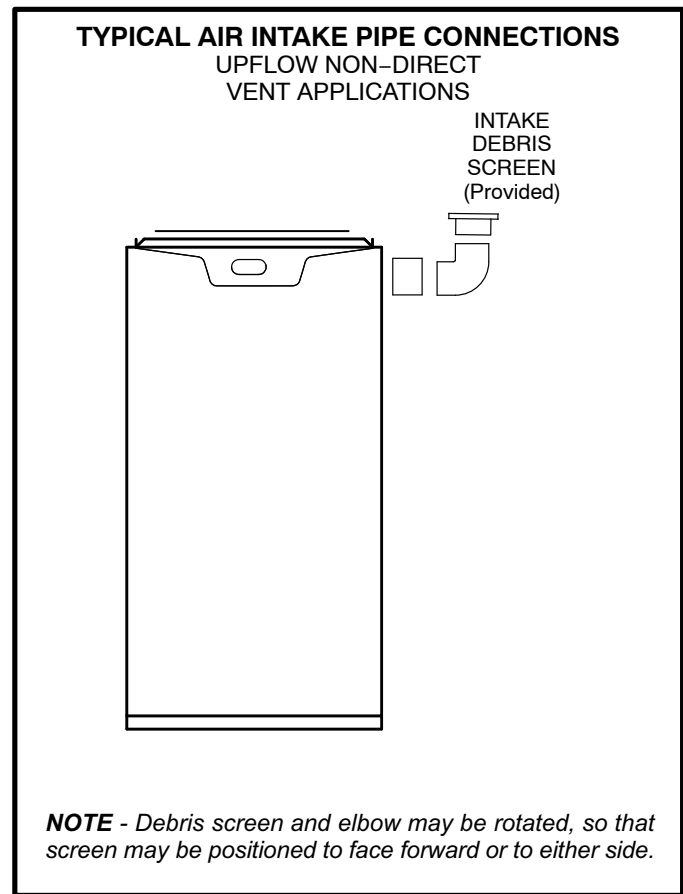

FIGURE 25
- 1 - Use field-provided materials and the factory-provided air intake screen to route the intake piping as shown in figure 25 or 26. Maintain a minimum clearance of 3" (76mm) around the air intake opening. The air intake opening (with the protective screen) should always be directed forward or to either side in the upflow position, and either straight out or downward in the horizontal position.